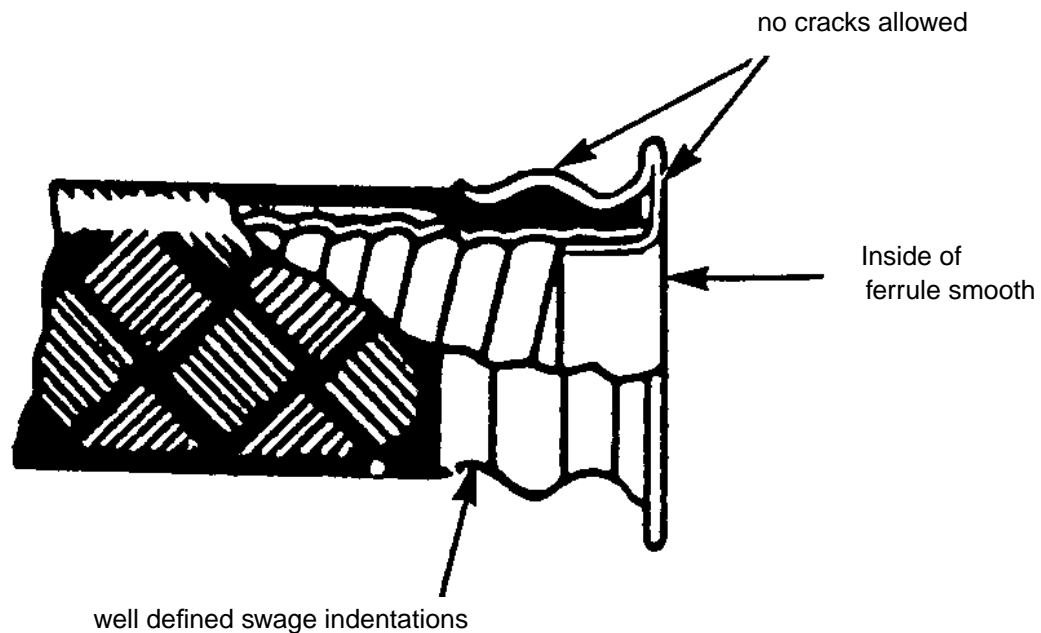

Figure 6 - Swaged Ferrule
- 6.1 The ferrule shall have well defined swage indentations and an even metal flow around the conduit (see Figure 6 for an acceptable swaged joint).